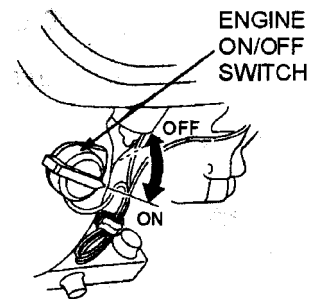

Figure 13. Engine ON/OFF Switch
5. Place the ***engine ON/OFF switch*** (Figure 13) in the "ON" position.